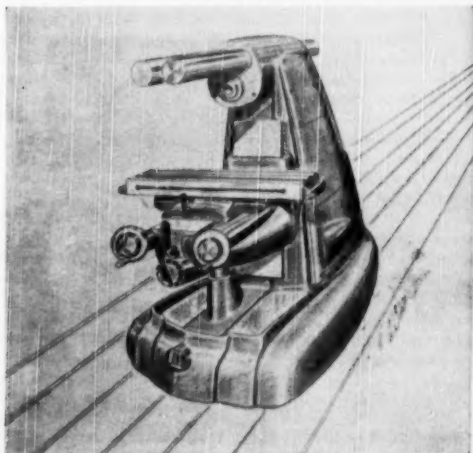

FIG. 9 MISAPPLIED STREAMLINING
**Streamlining.** Having agreed that function is of first importance in the design of machine tools and having been trained as engineers to know the purpose of streamline forms, we have little temptation to streamline machine tools. The purpose of getting streamline flow is to reduce resistance to motion. Thus the forms which best accomplish this have become associated with high speeds. A machine tool stays put—is often anchored to a floor of concrete, and there is no reason, Fig. 9, why capabilities of high speed should be suggested.